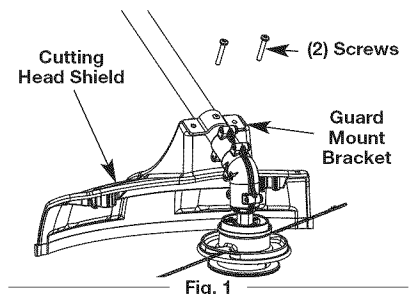

Fig. 1
1. Place the cutting head shield onto the guard mount bracket, making sure to align the holes on the shield with the ones in the guard mount bracket. (Fig. 1)